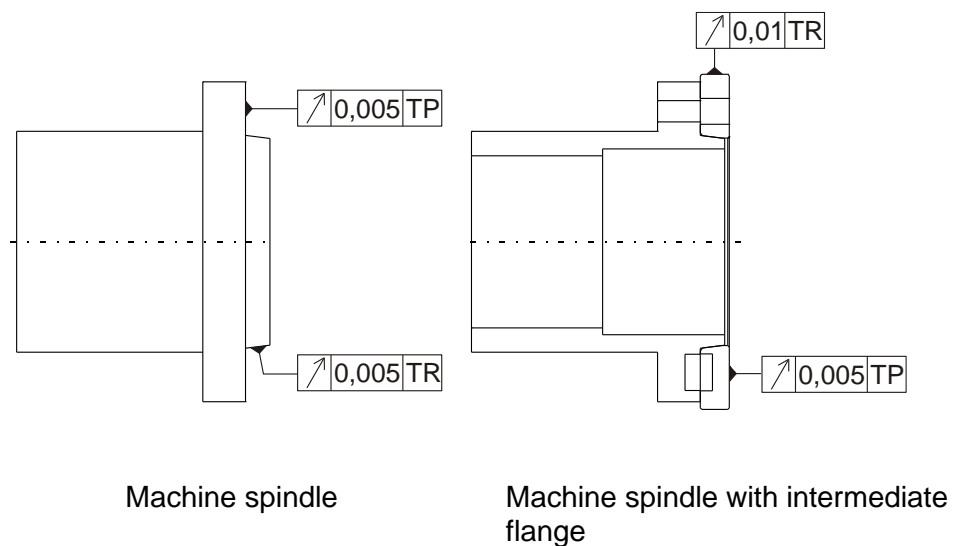

Fig. 3-2: Testing of radial and axial runout
- Step 2** Place the draw tube (2) in the front position and screw the adapter (3) onto the draw tube, after you have coated the thread with copper paste to prevent corrosion/seizure.
- Step 3** Attach the intermediate flange (4) to the spindle (if the chuck is not screwed directly to the spindle) and check the radial and axial runout as shown in Fig. 3-2.
- Step 4** Remove the sealing bush (1) from the chuck so that you can later (see step 7) unscrew the groove nut (5).